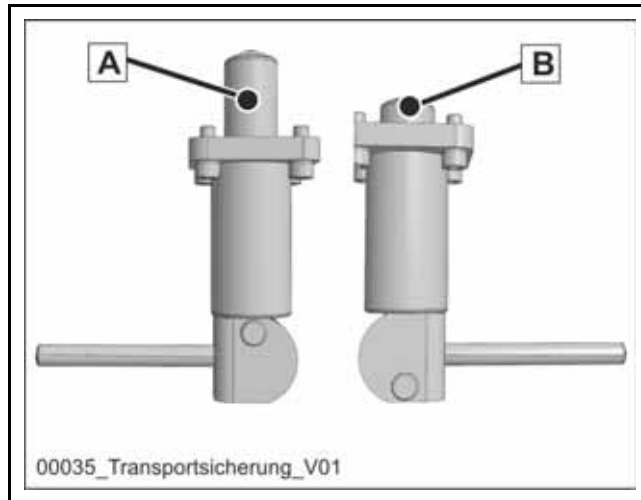

Fig. 622 "A" = secured / "B" = unlocked
- Loosen the transport safety devices on both spline ends, example (1) (**Fig. 621**), (**Fig. 622**).